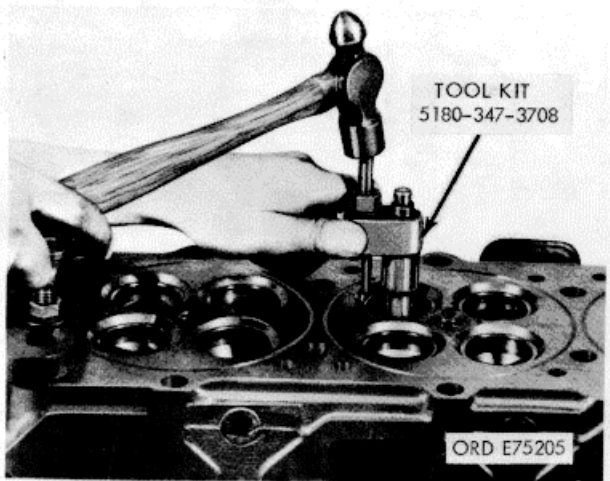

Figure 3-46. Valve seat insert peening.
(3) Install valve seat insert using valve seat insert tool kit and peen insert in cylinder head as shown in figure 3-46.